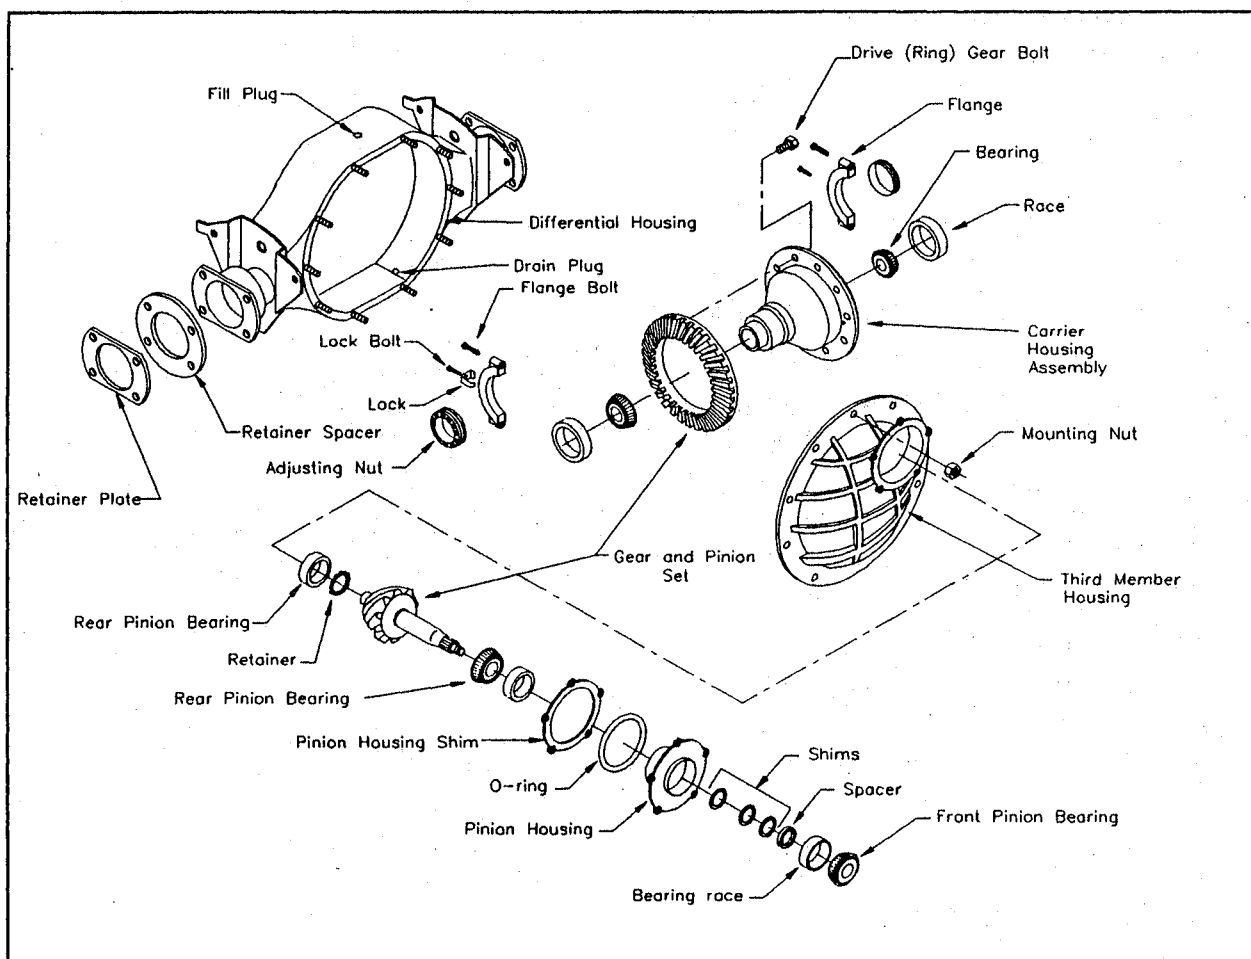

Figure 3-12
- Remove the third member housing by removing the mounting nuts from the drive (see figure 3-12).